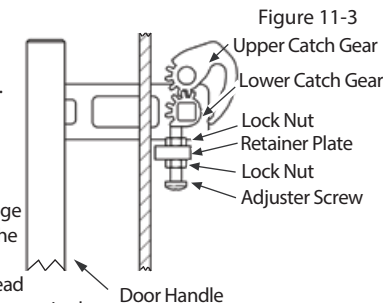

Figure 11-3
- Remove the door hinge and fasteners as shown in figure 11.3.
- Once the desired adjustment position has been achieved, the lock nut should be re-tightened against the retaining plate. Refer to figure 11.3.